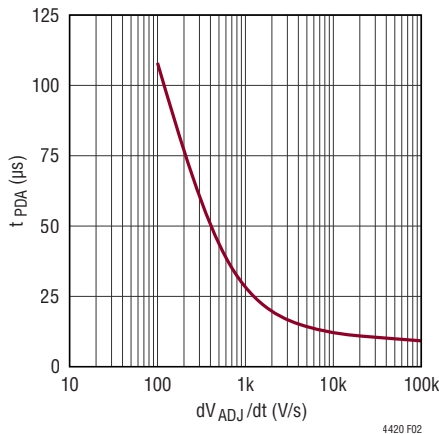

Figure 2. ADJ Comparator Propagation Delay as a Function of Slew Rate; t_{PDA} vs dV_{ADJ}/dt
Refer to Figure 2 for a more accurate estimate of t_{PDA} vs dV_{OUT}/dt . If ADJ is filtered with capacitor C_{ADJ} , its discharge time via divider R1 – R3 increases t_{PDA} . This results in a higher output droop than estimated by equation (8).